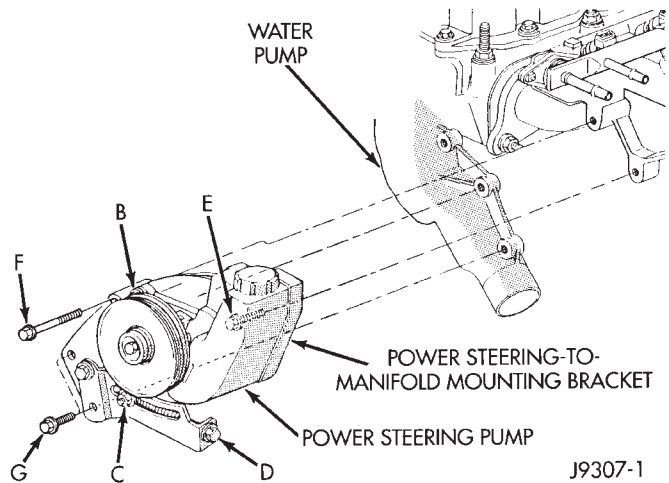

Fig. 7 Bracket Mounting Bolts—Typical
E. Bracket mounting bolt E is located behind the power steering pump (Fig. 7).
(10) Remove bolts E, F and G (Fig. 7) and remove pump mounting bracket.
(11) Remove idler pulley mounting bolt and remove idler pulley. This must be done to gain clearance for the water pump mounted heater hose fitting when water pump is being removed. Note position of pulley spacers after removal.
(7) Position power steering pump bracket to engine. Install bolts E, F and G (Fig. 7). Tighten bolts F and G to 38 N·m (28 ft. lbs.) torque. Tighten bolt E to 27 N·m (20 ft. lbs.) torque.